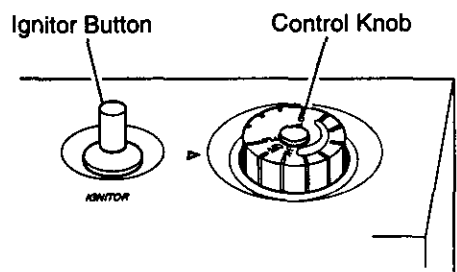

Figure 24 - Control Knob In The OFF Position
4. Wait five (5) minutes to clear out any gas. Then smell for gas, including near the floor. If you smell gas, STOP! Follow "B" in the safety information page 13, column 3. If you don't smell gas, go to the next step.
5. Turn control knob counterclockwise to the PILOT position. Press in control knob for five (5) seconds (see Figure 24).